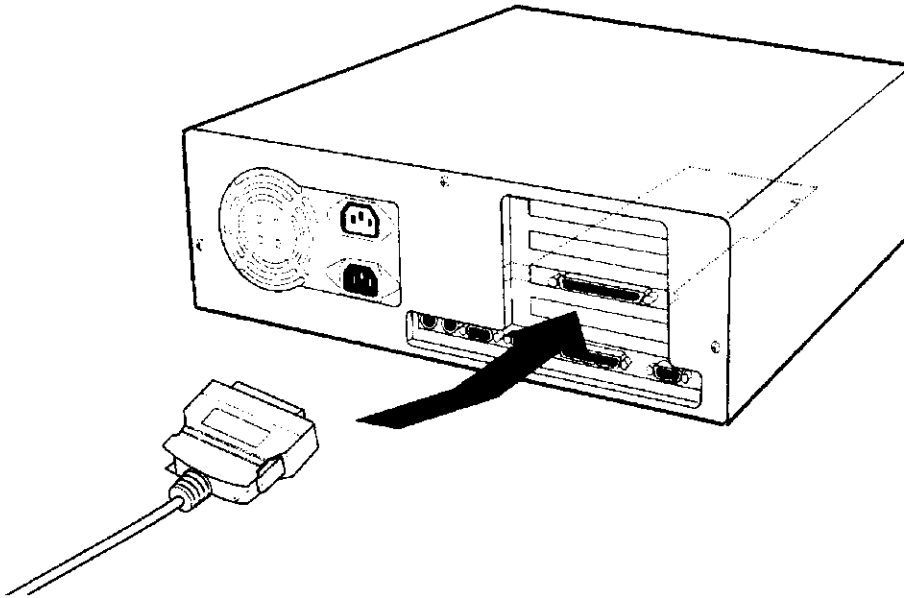

Figure 17. Connecting the Interface Cable to the Computer
6. **Connect the other connector on the adapter cable to the connector on the back edge of the host adapter card that now protrudes from the rear panel of your computer's chassis (Figure 17).**